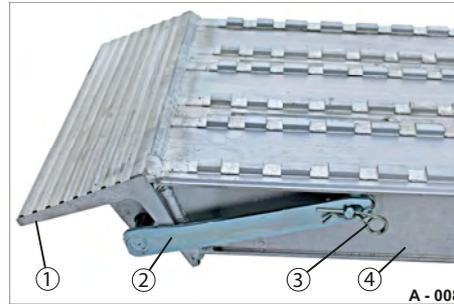
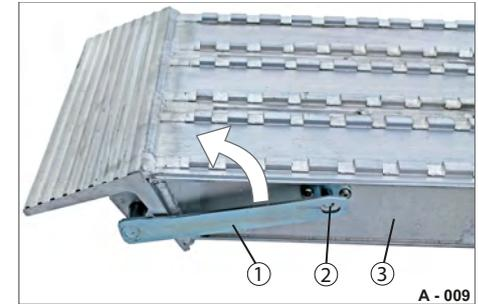

Fig. 12 Opening the locking lever
Fig. 13 Locking lever unsecured
- ▶ Pull the spring pin (Fig. 12/3) out of the retaining bolt (Fig. 13/2).
- ▶ Swing the locking lever (Fig. 13/1) upwards.